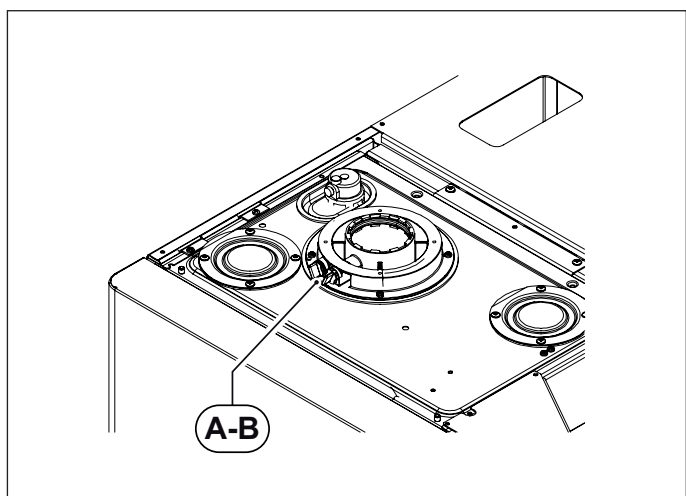
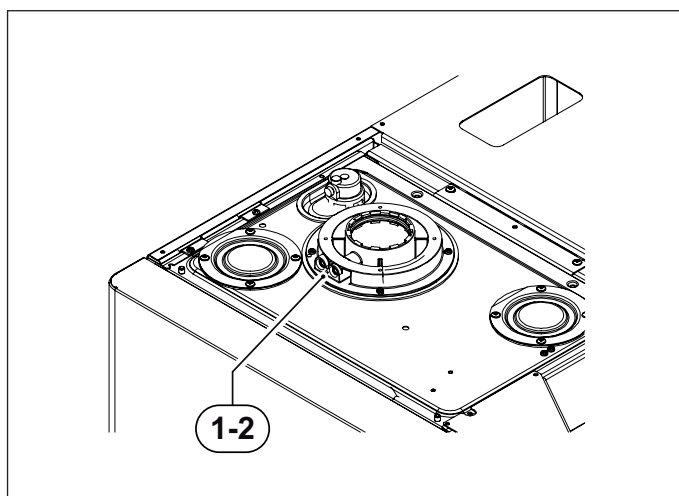

Fig. 15 Plugs position
Fig. 16 Hole position
The boiler is equipped with a tower allowing for air intake/flue gas venting pipe connection (see Fig. 15 Plugs position and Fig. 16 Hole position).
The tower is designed with two pre-arranged openings directly accessing air and flue gas ducts (see Fig. 15 Plugs position).
Remove caps **A** and **B** from the pre-arranged openings on the tower, before starting combustion checking procedure (see Fig. 15 Plugs position).
- assess combustion air from opening **1** (see Fig. 16 Hole position).
- assess flue gas temperature and CO₂ from opening **2** (see Fig. 16 Hole position).